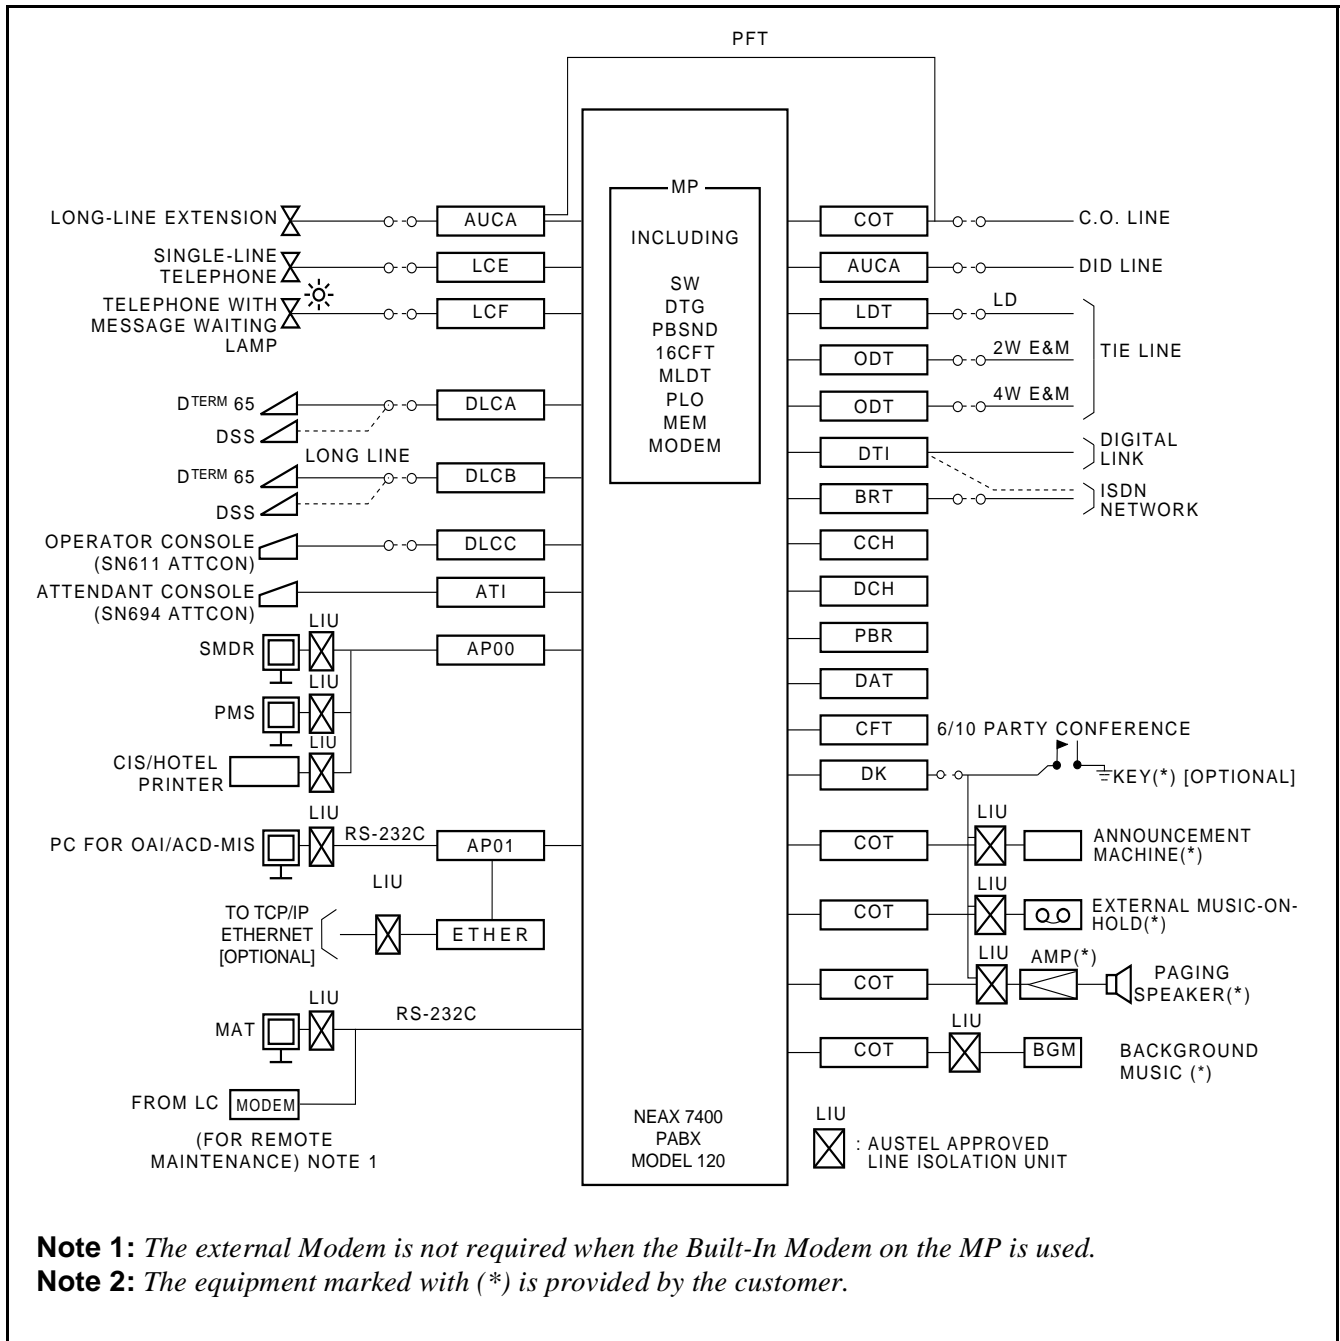

Figure 2-1 PABX Trunking Diagram
A typical trunking diagram for the PABX is shown in Figure 2-1.
- (c) An appropriate AUSTEL Approved Line Isolation Unit (LIU) is to be installed at I/O ports, as indicated in Figure 2-1.